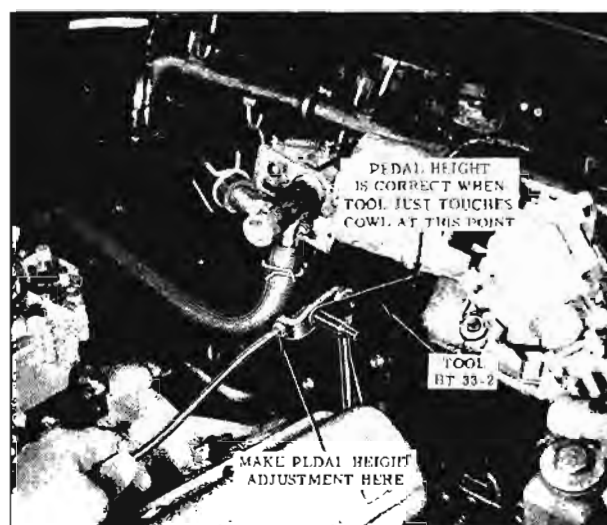

Fig. 9-164 Accelerator Pedal Height
### UNLOADER ADJUSTMENT (Fig. 9-164)
4. Adjust accelerator pedal with Tool BT-33-2 as shown in Fig. 9-164.